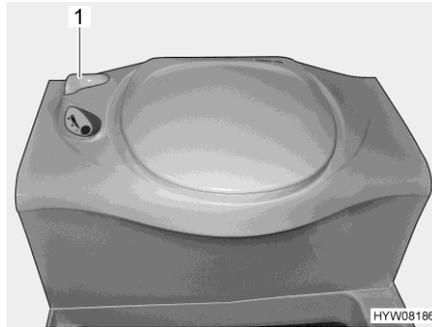

Fig. 285 Thetford toilet
- Before flushing open the sliding trap of the Thetford toilet. To do this, turn the slide lever (Fig. 285,1) in an anticlockwise direction.
- After flushing close the sliding trap. To do this turn the slide lever (Fig. 285,1) in a clockwise direction.